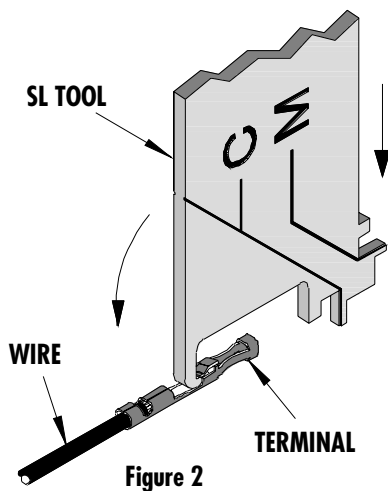

Figure 2
1. Insert the probe of the SL tool under the depressed locking tang as shown in Figure 2.